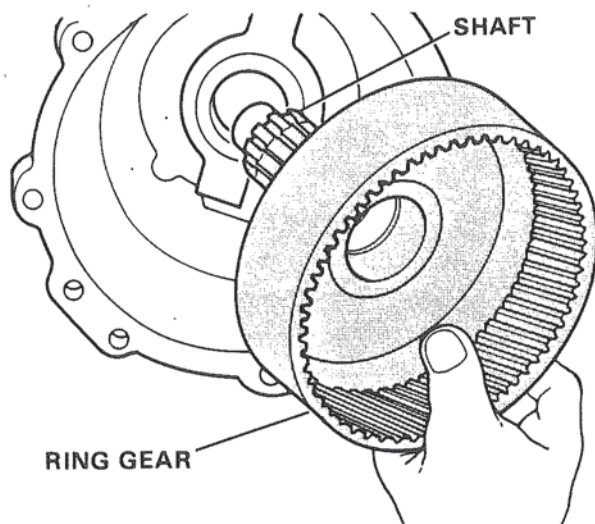

Figure 10. Removing Ring Gear and Main Shaft.
8. Remove main shaft and ring gear assembly from reduction housing. Figure 10.